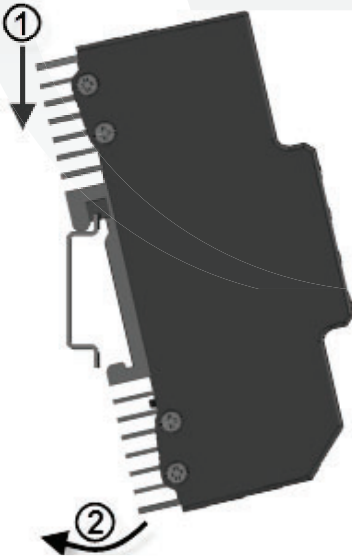

Figure 3: Snap on the Bus Power Supply—third-party panels
- 2 With the top side already in place, rotate the power supply down to snap it onto the rail (see *Figure 3*).